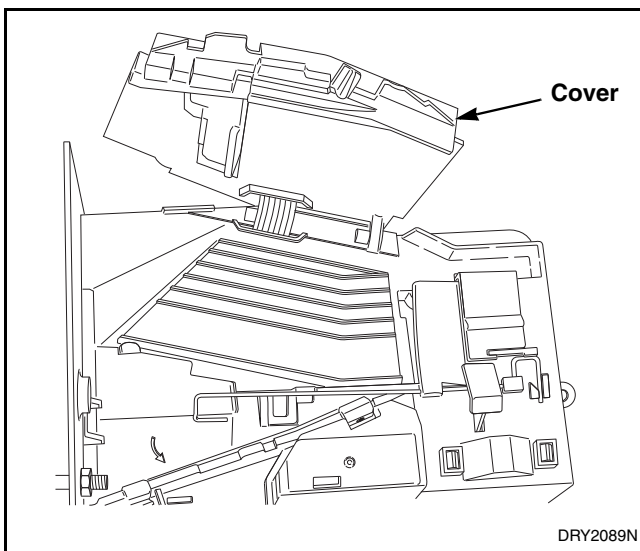

Figure 18
- d. Open cover for coin drop. Refer to *Figure 18*.